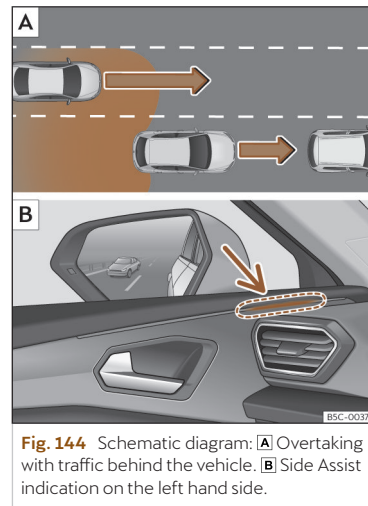
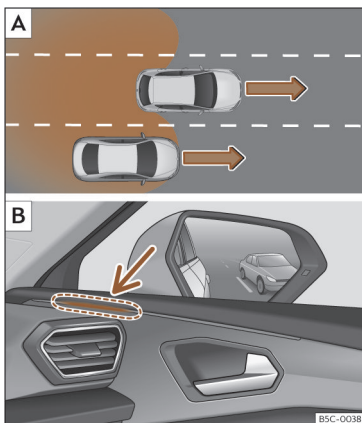

Fig. 144 Schematic diagram: **A** Overtaking with traffic behind the vehicle. **B** Side Assist indication on the left hand side.
Fig. 145 Schematic diagram: **A** Overtaking in the central lane and then joining the right lane. **B** Side Assist indication on the right hand side.
In the following situations, an indication will be displayed in the control lamp >>> **Fig. 144 B** (arrow) or >>> **Fig. 145 B** (arrow):
- When being overtaken by another vehicle >>> **Fig. 144 A**.
- When passing another vehicle >>> **Fig. 145 A** with a speed differential of approx. 10 km/h (6 mph). If the vehicle is passing at a considerably higher speed, no indication will be displayed.